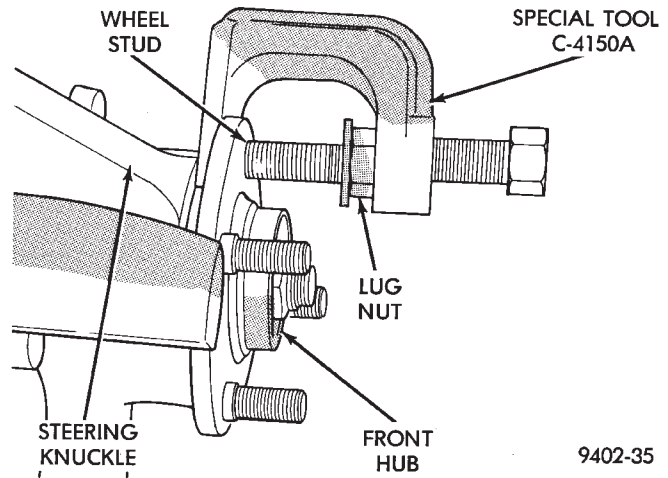

Fig. 82 Removing Wheel Stud From Hub And Bearing
(7) Install a lug nut on the wheel stud to be removed from the hub/bearing assembly, (Fig. 82) so threads on stud are even with end of lug nut. Rotate hub so stud requiring removal is aligned with notch cast into front of steering knuckle. Install Remover,
Special Tool C-4150 on hub and bearing assembly flange and wheel stud (Fig. 82).